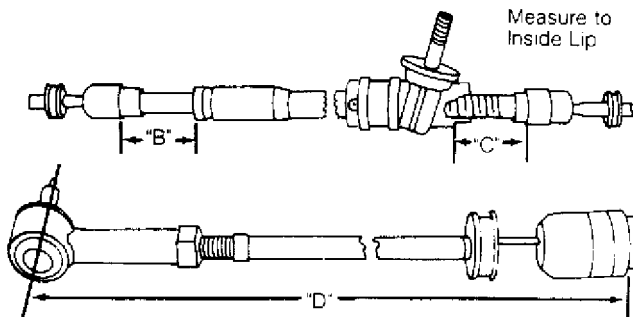

Fig. 1: Installation Adjustment of Tie Rods on Rack
- 4) When measurements are correct, secure tie rods with lock nuts. Install rubber boots. See Fig. 1.